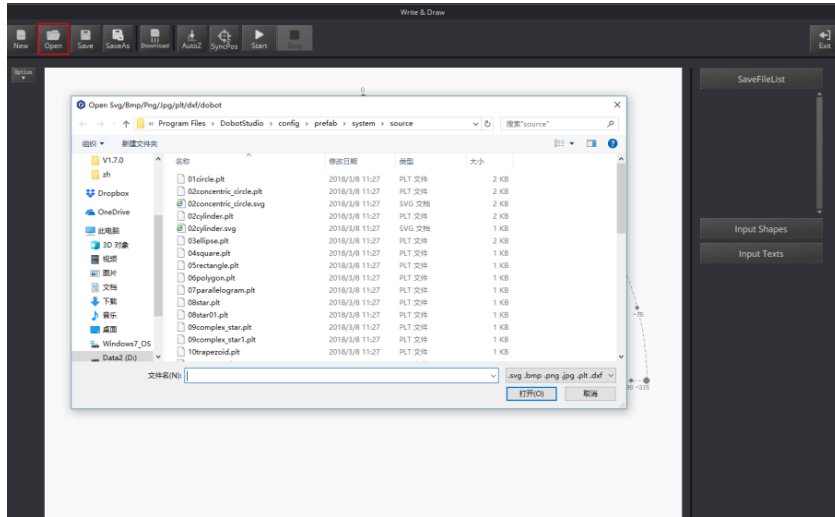

Figure 5.40 Open a PLT or SVG system image file
- Click **Open** on the **Write & Draw** page to import a built-in PLT or SVG image file from the DobotStudio installation directory ***InstallatonDirectory\DobotStudio\config\prefab\system\source***, as shown in Figure 5.40. You can also import your custom PLT or SVG image file.